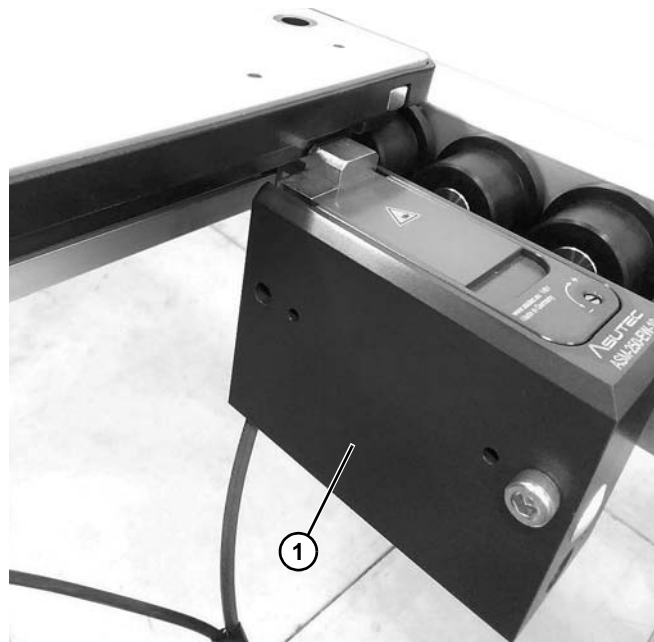

Figure 21
4. Install pallet stop (**Figure 21, item 1**) at leading end. (Refer to “Pallet Stops” starting on page 6.)